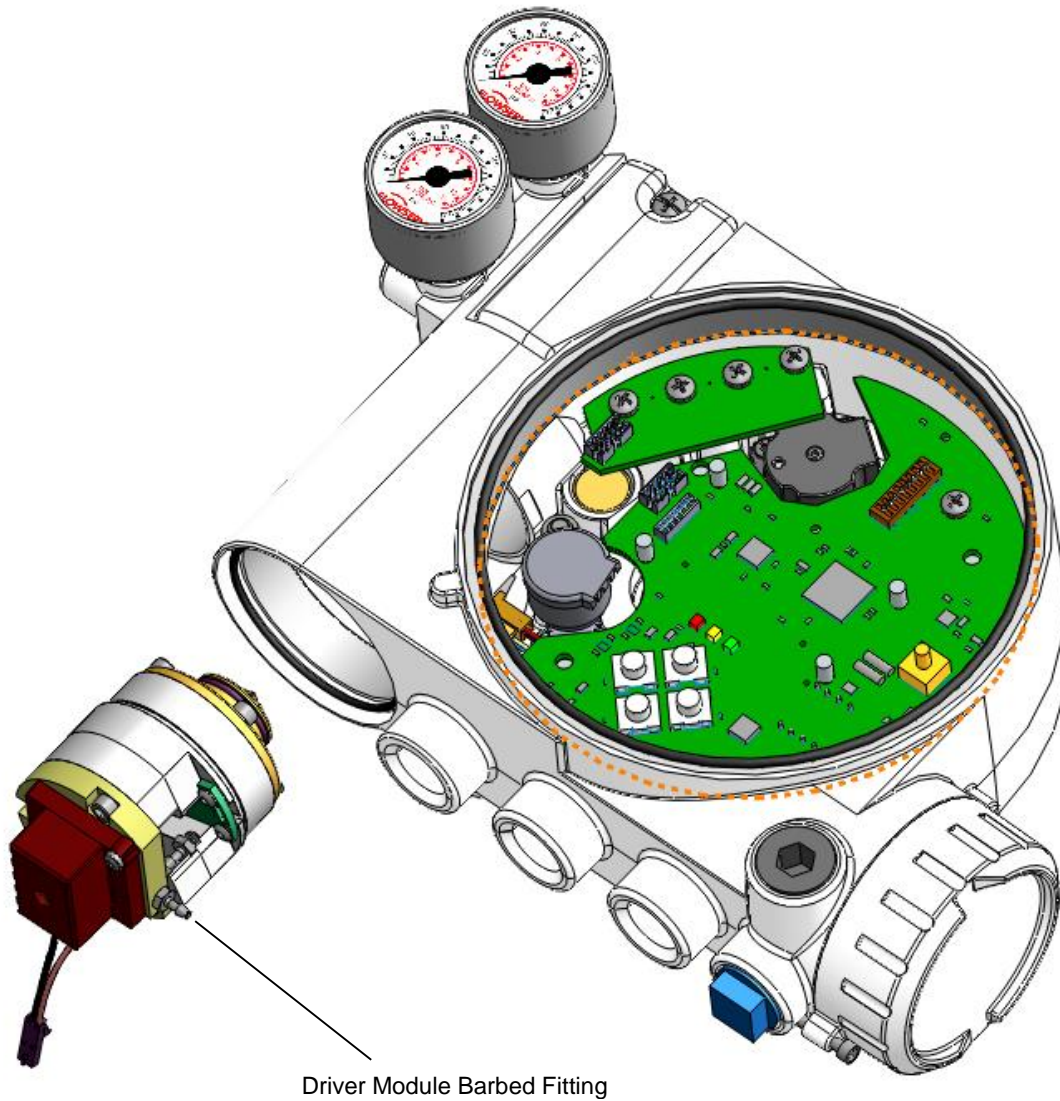

Figure 41: Driver Module Barbed Fitting
- 11 Feed the two wires on the driver module back into the driver module compartment so that they stick out the driver module opening (See Figure 41). This will allow the driver module to thread out without tangling or cutting wires.
- 13 Remove the barbed fitting from the side of the driver module as shown in Figure 41 and hold the wires in position by hand.
- 1 Verify that the O-ring is in place on the top of the new driver module. Lay the wires back along the side of the driver module as shown in Figure 41 and hold the wires in position by hand.